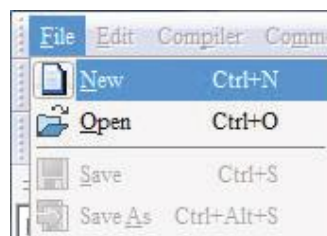

Figure 16-12
**NOTE** Alternatively, on the **File** menu, click **New (Ctrl+N)** (see Figure 16-12).